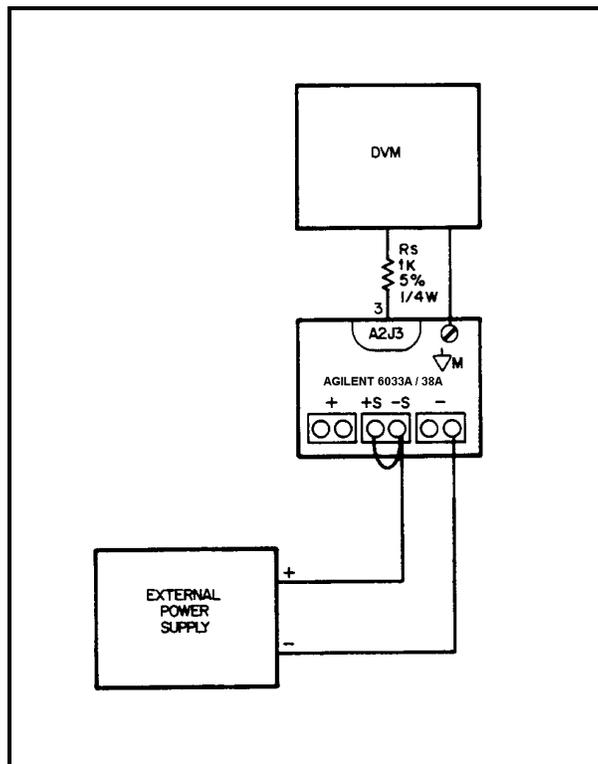

Figure 2-1. Common Mode Setup
- Remove both local sensing straps from rear-panel terminal block, and connect a 1-volt external power supply with its + lead to - S and its--lead to - Out. See Figure 2-1.
- a. Attach the DVM from ∇ M on the rear panel to A2J3 pin 3 (V-MON). See DVM connection in Figure 2-1.